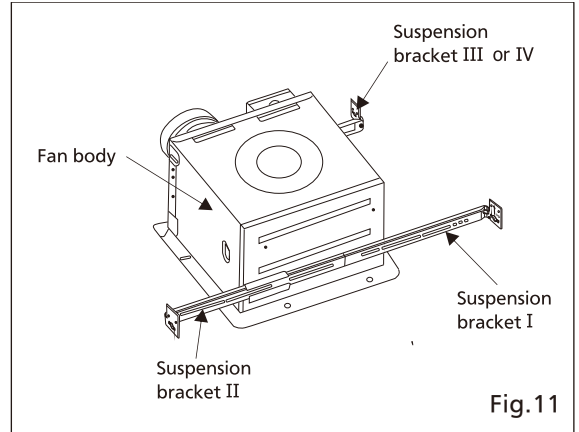
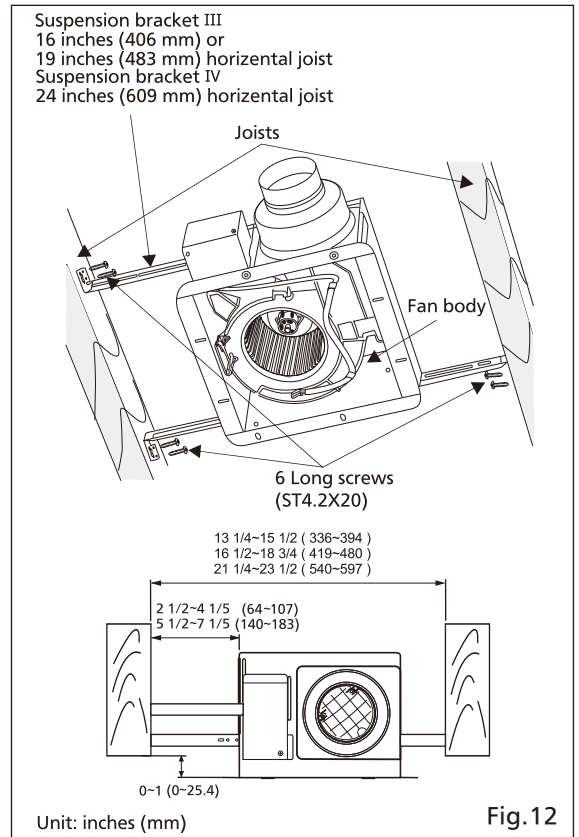

Fig.11
Fig.12
2. Insert the suspension bracket I and II into the fan body and suspension bracket III or IV into the adaptor. (Select the suspension bracket connection holes as shown below) (Fig.11, Fig.12)